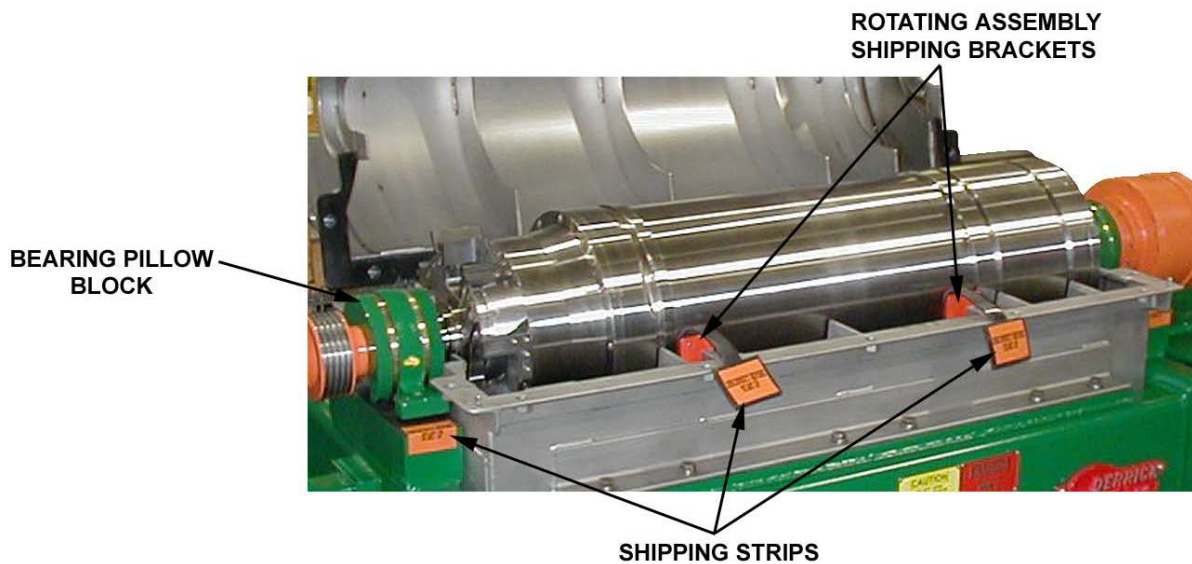

Figure 3-4 Shipping Components Locations
5. Remove rubber shipping strips under rotating assembly and bearing pillow blocks (Figure 3-4).